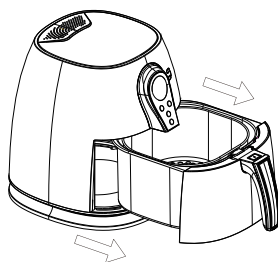

Figure 2
4. Pull the Drawer Pan (2) out by the Handle (3). Press down on the Basket Release Button (9) to lift out the Basket (8) (see Figure 2).